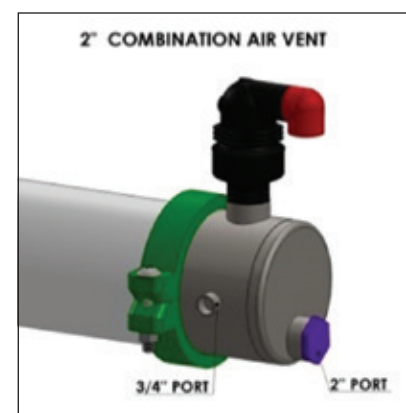

FIGURE 7
- On 30" and 36" media filters, the 2" Combination Air Vent is installed with an elbow into the 2" port of the inlet manifold cap. (See Figure 7)